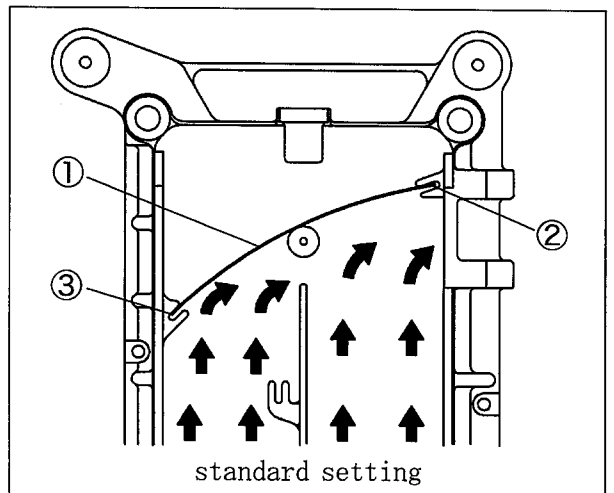

Fig. 73
To set the standard position, insert the air deflector ① into the guides ② and ③. (See Fig. 73)